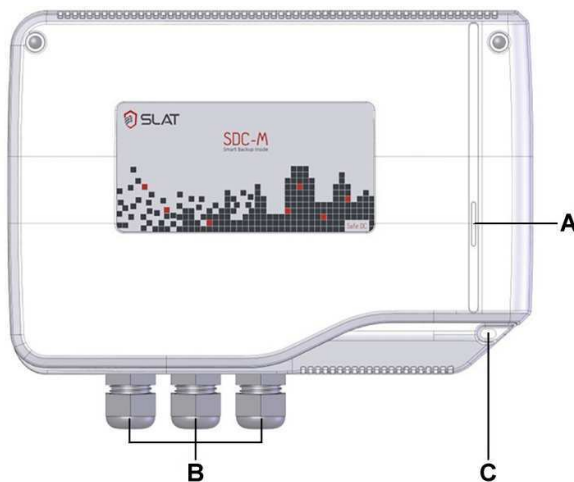

Figure 6.2: Front view
- For prolonged storage or disconnection, switch off the mains and press the stop button back-up function (see Figure 6.2 in chapter 6.4: Disconnect backup push-button).
Two protective devices are available to ensure product security. The unit can be sealed with a security seal to detect unauthorised opening of the cover (see Figure 6.2).